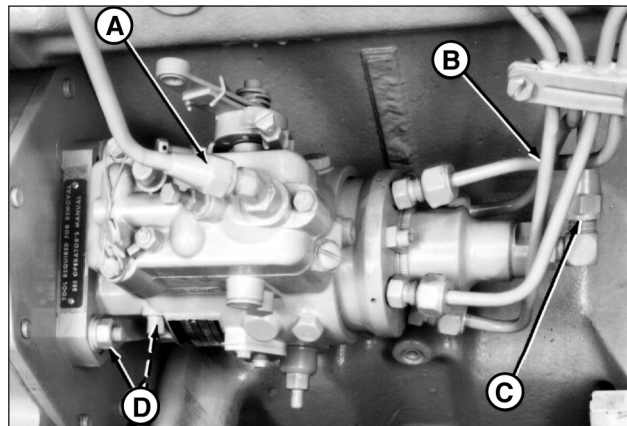

Figure 18 Reproduced by permission of Deere & Company, c 2004. Deere & Company. All rights reserved. RG5659
3. Disconnect fuel return line (Figure 18-A) and fuel supply line (Figure 18-C).
4. Disconnect all fuel delivery (pressure) lines (Figure 18-B) from injection pump using a suitable 17 mm deep-well crowsfoot socket.